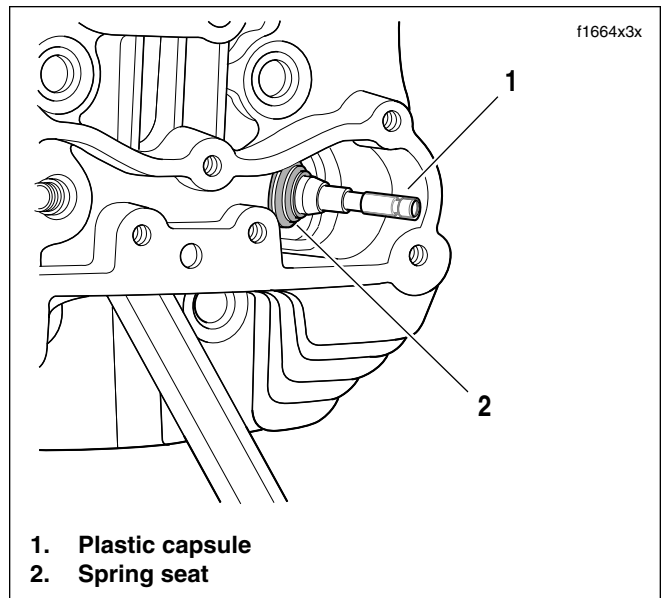

Figure 3-27. Install Plastic Capsule on Valve Stem
11. See Figure 3-27. Push on bottom of valve until it contacts the valve seat. Placing finger at bottom of valve to keep valve seated, slide plastic capsule over valve stem tip and keeper groove.